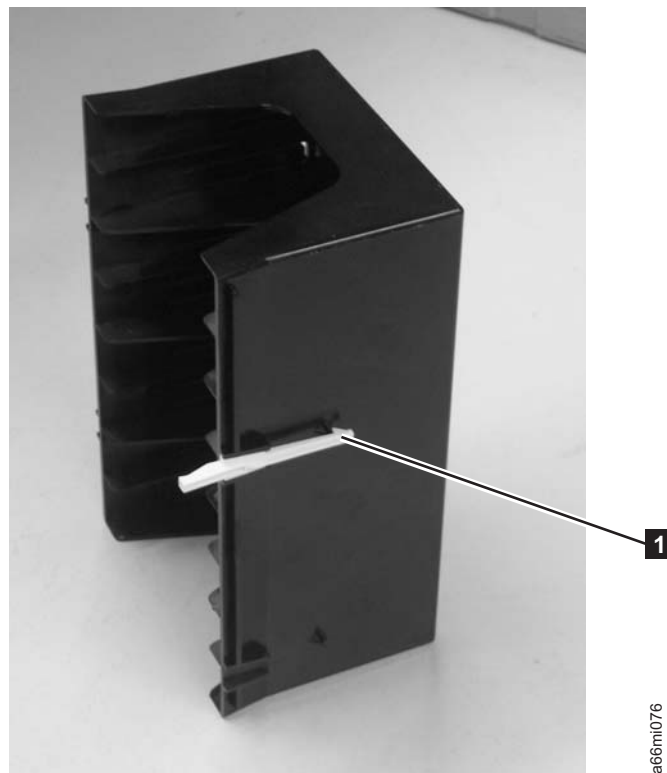

Figure 8-50. Fiducial on storage column
- b. Insert the new fiducial by sliding it into the slot until it locks into place (**1** in Figure 8-50).